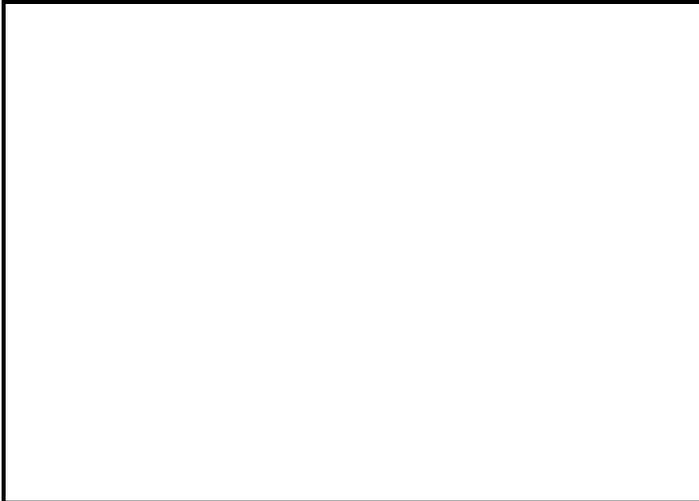

FIG.1 PRELIMINARY LAMP ALIGNMENT
4. For stereo installations, remove the mono solar cell and place a white card about an inch away from the sound lens. The image of the exciter lamp should look like Figure 1. If necessary, raise or lower the lamp and move it in and out until the filament is centred in the spot of light. This will ensure that the slit is evenly illuminated, thereby producing the least distortion.